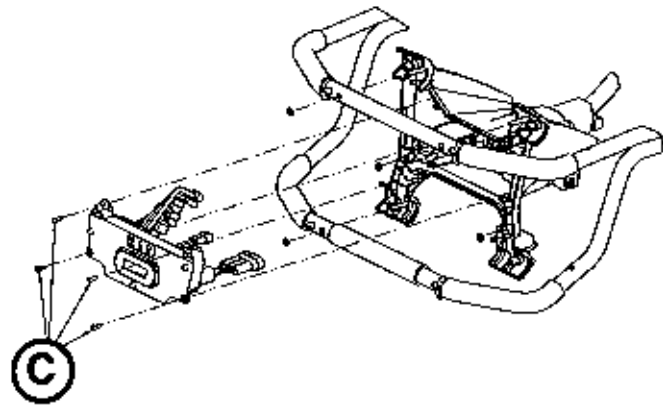

Figure 116
5. Using a T20 Torx driver, remove the four delta screws (C) that secure the electronics assembly to the foot end enclosure and pull the electronics assembly out (Figure 116). Save all parts for reinstallation.